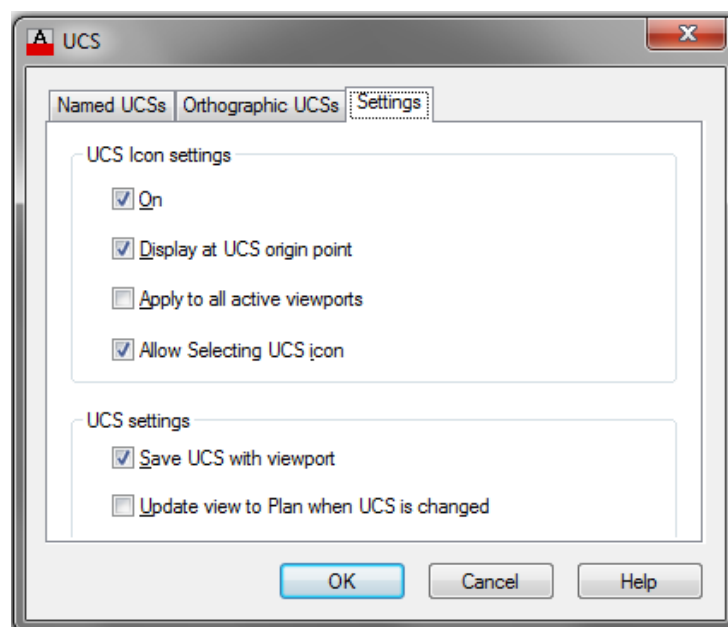

Figure Step 5
Step 5 Enter the UCSMAN command. It will open the UCS dialogue box. Enable the Settings tab and ensure that the settings in the dialogue box matches the figure. (Figure Step 5)